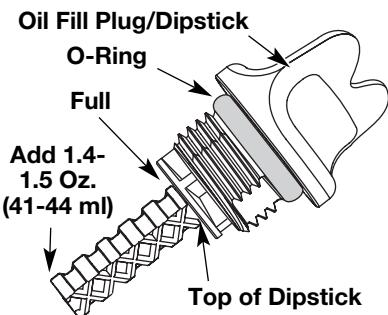

Fig. 28
5. Remove the oil fill plug/ dipstick and check the oil level. Oil should be up to the top of the dipstick (Fig. 28).